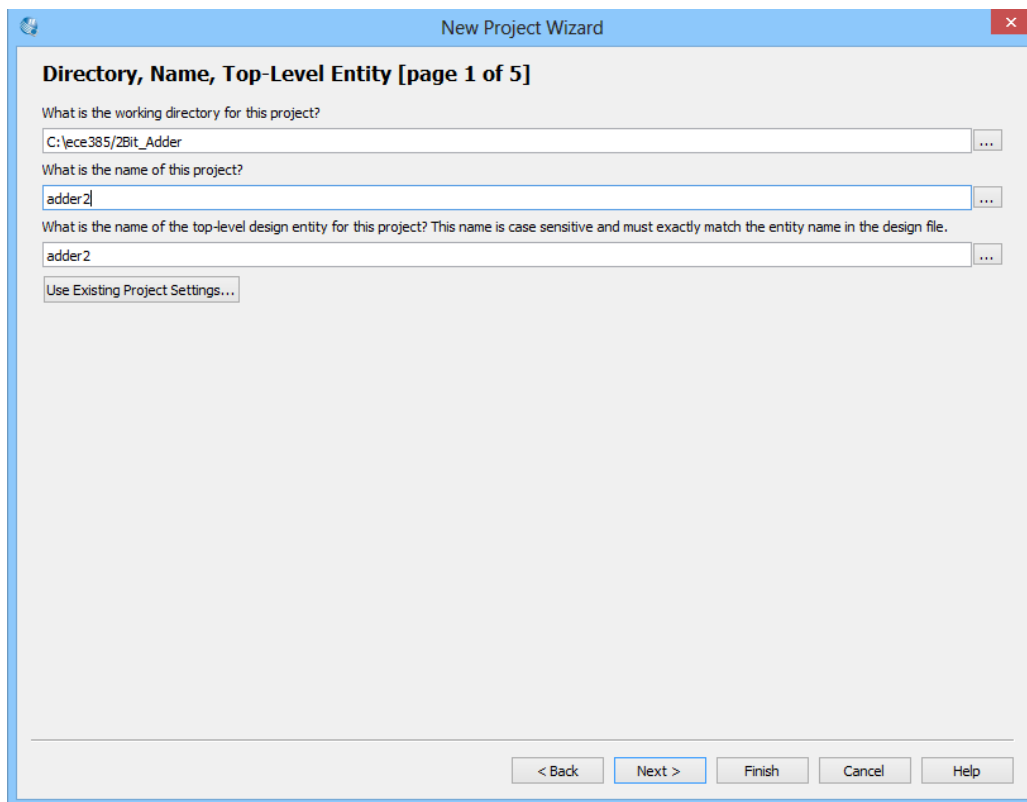

Figure 1
- The window in Figure 1 will appear. Fill in the fields from Figure 1 (make sure there are no spaces in any of your entries). The program will ask you if it should create the specified directory if it does not exist; choose **yes**.